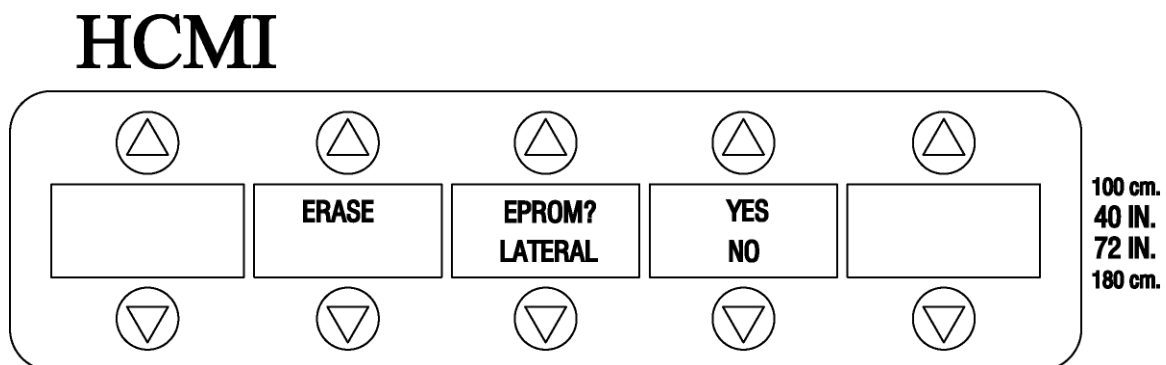

Figure 7-9 Copy MASTER Verification Menu
3. Press the **Copy Master sector key**., The LCD panel will display (Fig. 7-9).